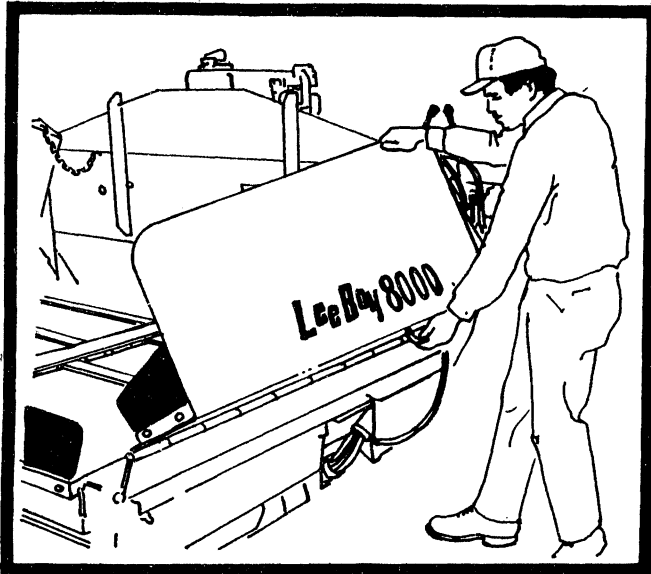

FIGURE 36
1. Fold hopper wings all the way in and pull bolts out. Grab top wings and pull out 5" or 6", then pull bottom handle out til wing knuckles in. To let wings down just pull on top of wing and let down to where bolts will go in. See figure 36.